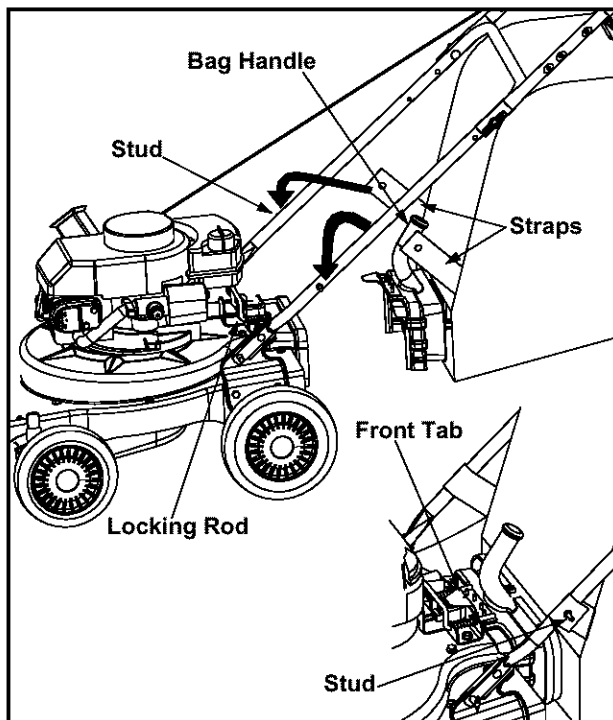

Figure 4
- Grasp bag handle with one hand and slide locking rod on mounting bracket with other hand toward engine. Use the end of mounting bracket as leverage when sliding the locking rod. See Figure 4.
- Remove bag from over the rim of the discharge opening. Refer to Figure 4.